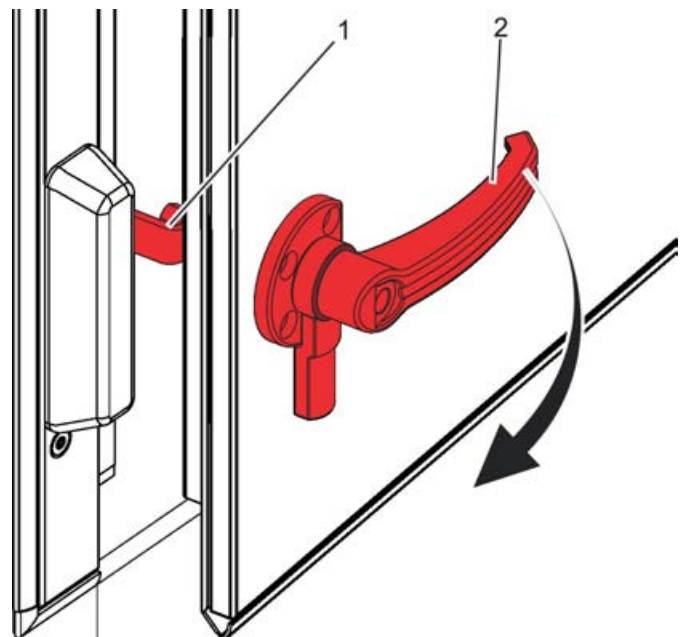

Fig. 18: Releasing the safety catch
3. ▶ Turn the door handle (Fig. 18 /2) clockwise by 90° .
⇒ This releases the safety catch (Fig. 18 /1); the inspection access door can now be completely opened.